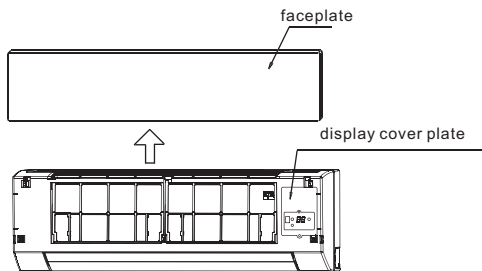

Fig. 7-1
- 1 Take out the faceplate, then dismantle the display cover plate. (see Fig. 7-1)